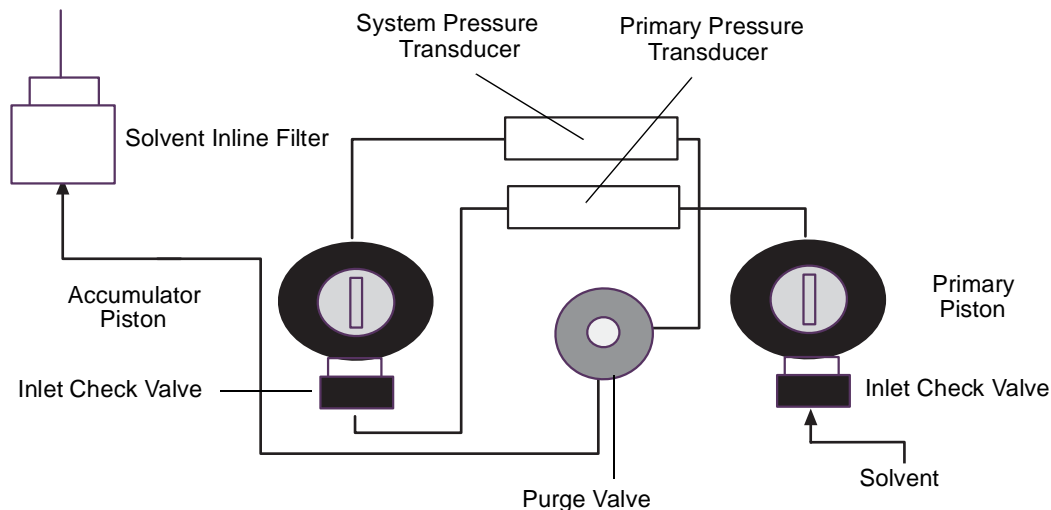

Figure 1-4 Solvent Flow Path Through the Solvent Manager
2. Solvent flows through an inlet check valve and then to the solvent manager's primary piston chamber. Simultaneously, the accumulator piston forces solvent to the system pressure transducer (Figure 1-4).